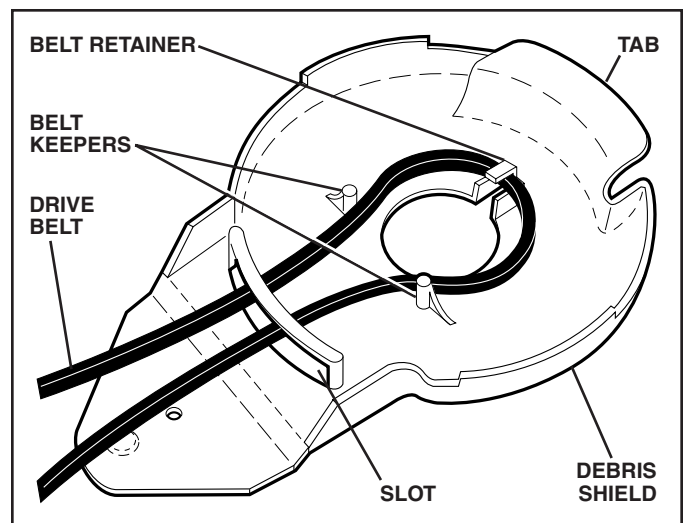

FIG. 23
1. Place new drive belt in the belt retainer of the debris shield. Be sure to route belt between belt keepers and through slot as shown (See Fig. 23).